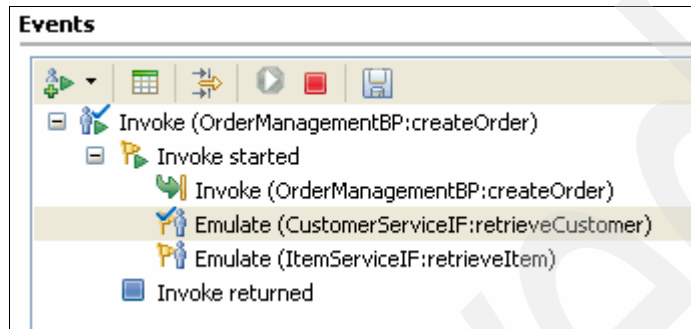

Figure 3-51 Component Test after executing first emulation activity
**Note:** Notice the check mark next to the first emulate, as shown in Figure 3-51.